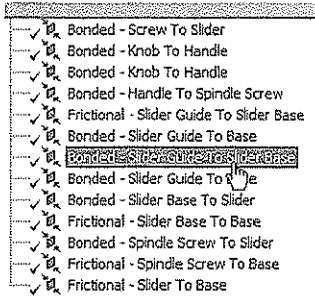
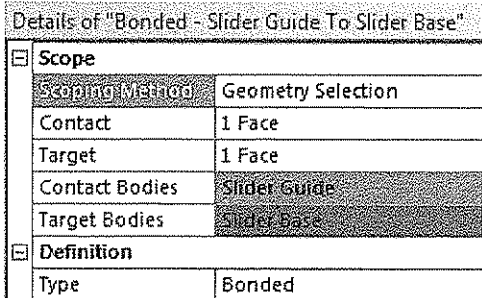

Figure 8-16 Selecting **Bonded - Slider Guide To Slider Base** from the **Contacts** node
Figure 8-17 Partial view of the **Details of "Bonded - Slider Guide To Slider Base"** window
4. Right-click on the **Contacts** node and then choose the **Rename Based on Definition** option from the shortcut menu displayed; the contacts are renamed, refer to Figure 8-16.
5. Select **Bonded - Slider Guide To Slider Base** from the **Contacts** node, as shown in Figure 8-16; the **Details of "Bonded - Slider Guide To Slider Base"** window is displayed, as shown in Figure 8-17.